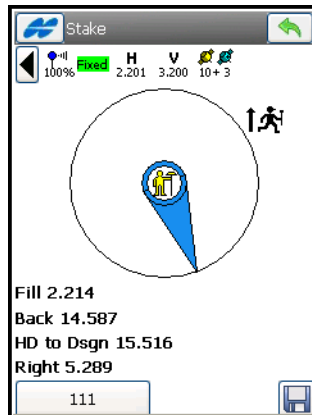

Figure 9-17. Stakeout Point & Direction – Stakeout
- For GPS+: use the information on the **Stakeout** screen to find the target. Tap **Store** once the position is close enough to the desired one (Figure 9-17).